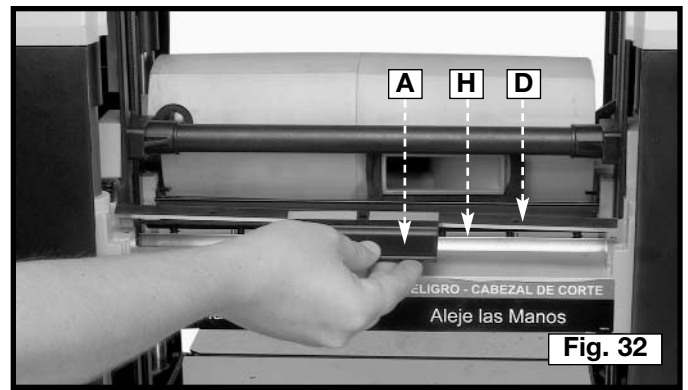

Fig. 32
8. Reverse the knife (H) Fig. 32 or install a new knife. Position the magnetized knife transfer tool (G) on top of knife. Place the knife in the cutterhead underneath the locking bar (D) with the bevel edge up. Ensure that the pins in the cutterhead and locking bar engage with the holes in the knife.